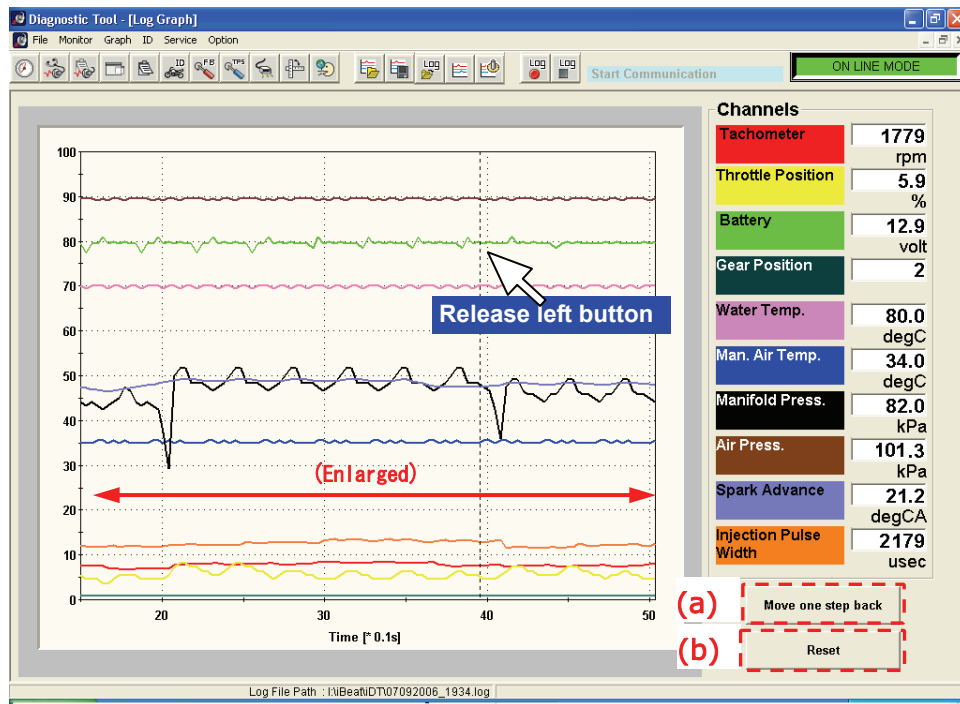

Fig. 6-1-4
- (3) Pressing the [**Move one step back**] button (Fig. 6-1-4 (a)) will return operation to the state one step prior.
- (4) Pressing the [**Reset**] button (Fig. 6-1-4 (b)) returns the graph view to its initial state.